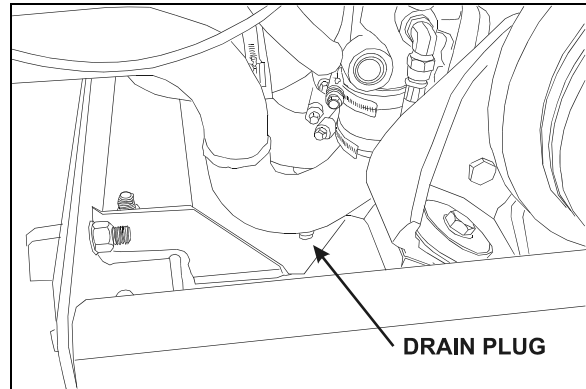

FIGURE 9: WATER PUMP DRAIN PLUG 05072
3. Unscrew the water pump housing inlet line drain plug (Fig. 9).